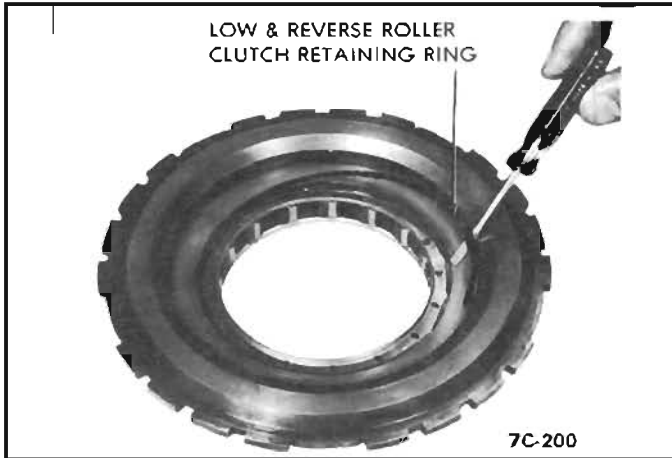

Figure 75 Roller Clutch Retaining Ring Installation
3. Install low and reverse clutch to cam retaining ring. *See Figure 75.*